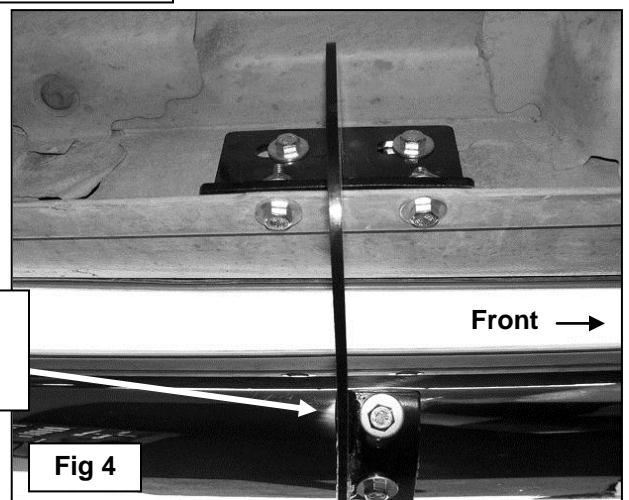

Fig 4
- Carefully position the Sidebar onto the Mounting Brackets and attach it using the included (4) 8mm x 25mm Hex Bolts, (4) 8mm Lock Washers and (4) 8mm Flat Washers, **(Figure 4)**. Do not tighten hardware at this time.